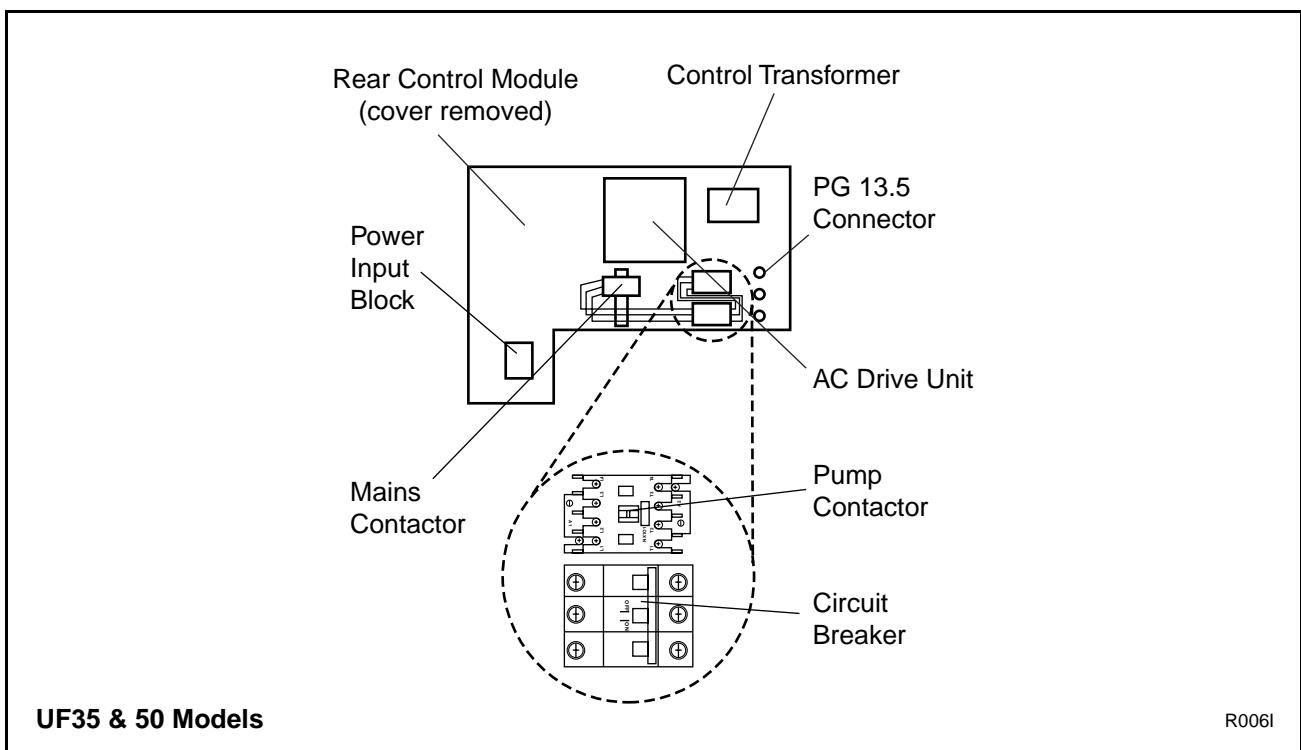
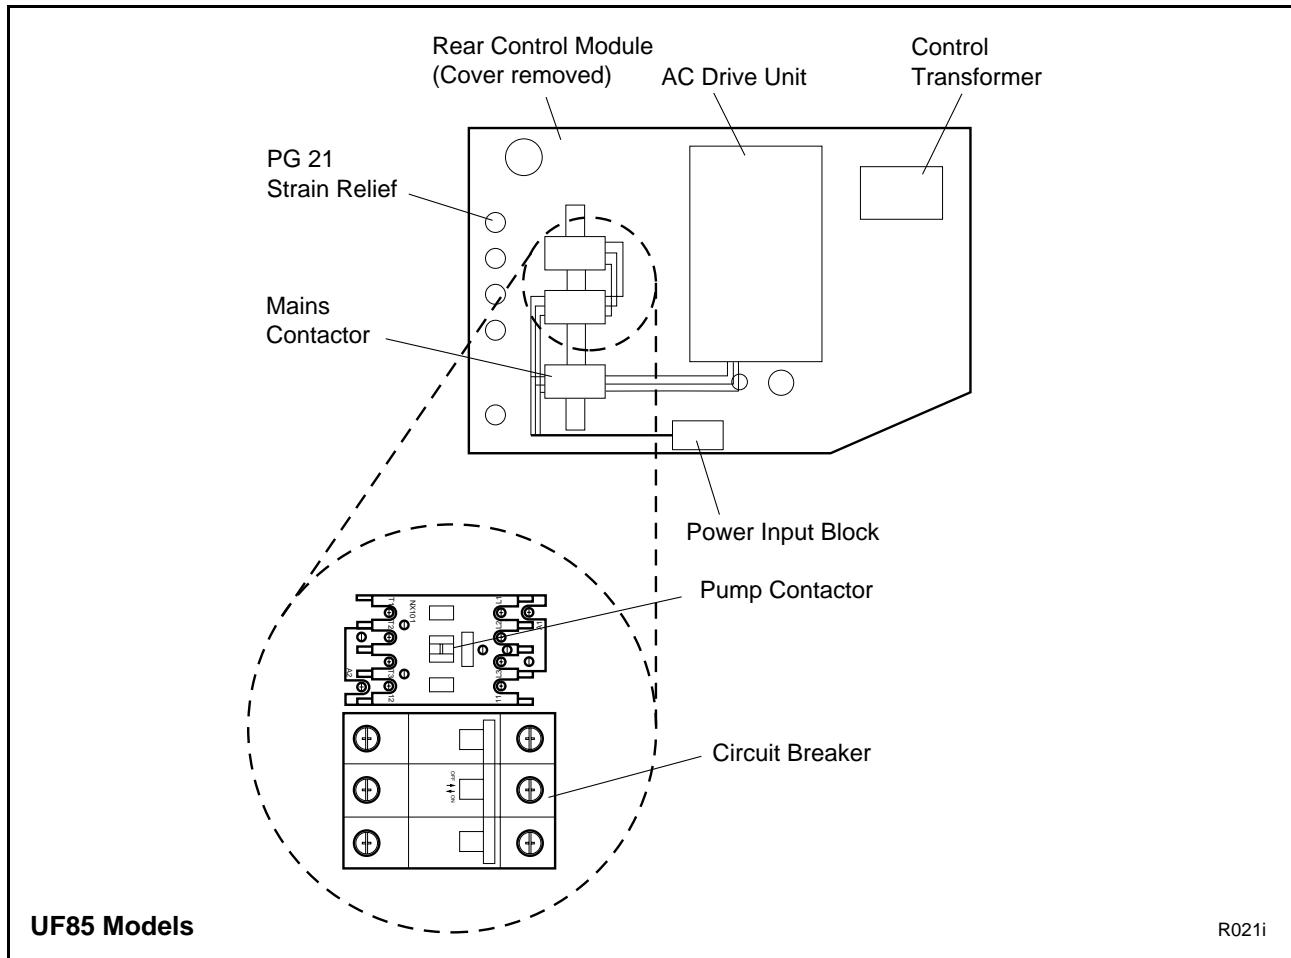

Figure 21
Figure 22
- b. *On the 35- and 50-pound models*, attach the pump contactor and the circuit breaker, included in the kit, to the mounting rail just below the control transformer on the right side of the AC drive unit as shown in Figure 21. *On the 85-pound models*, attach the pump contactor and the circuit breaker, included in the kit, to the mounting rail located to the left of the AC drive unit.
- On the 35- and 50-pound models,* remove the top two plugs of the three black plugs from the right side of the rear control module. These plugs are located just to the right of the pump contactor and circuit breaker. See Figure 21. *On the 85-pound models,* remove the second plug from the top located to the left of the pump contactor and circuit breaker. See Figure 22.